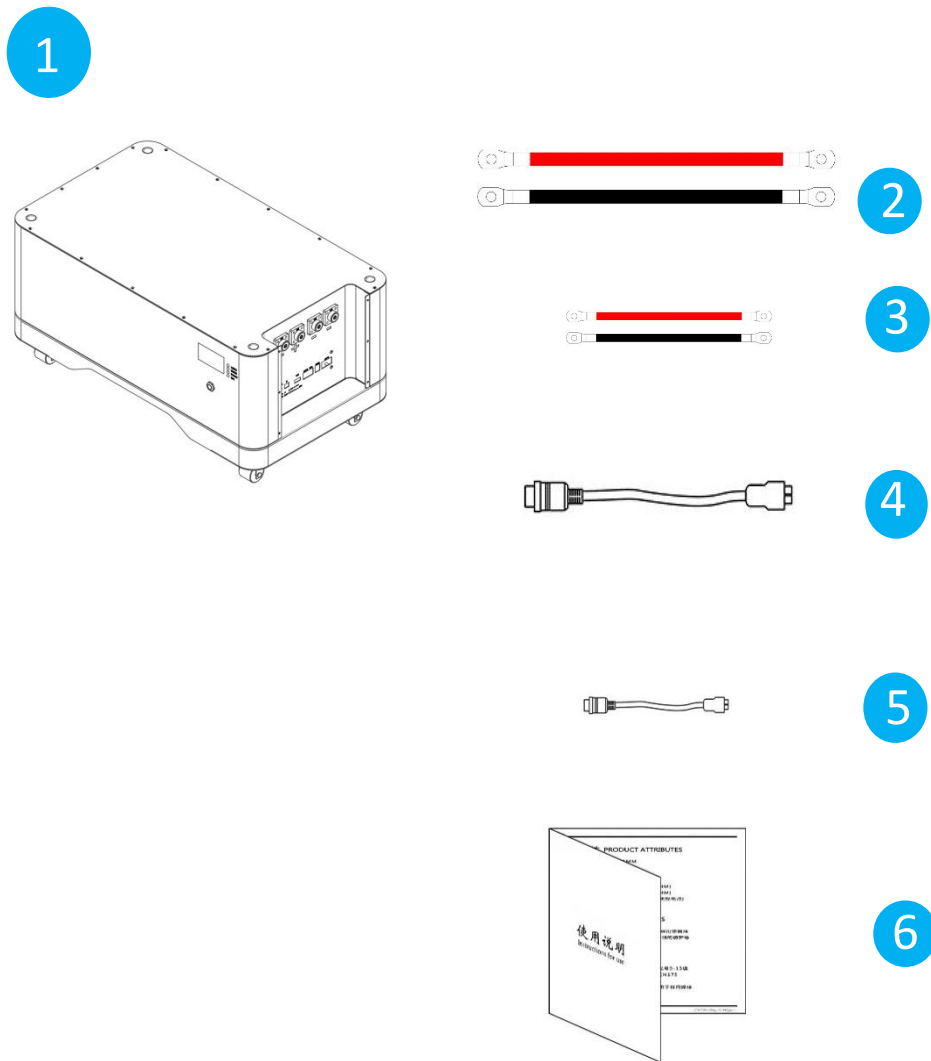

Figure 2-1 Schematic diagram of delivering components
2. Check whether the delivered accessories are complete and correct against the list of shipped accessories (as shown in Figure 2-1).